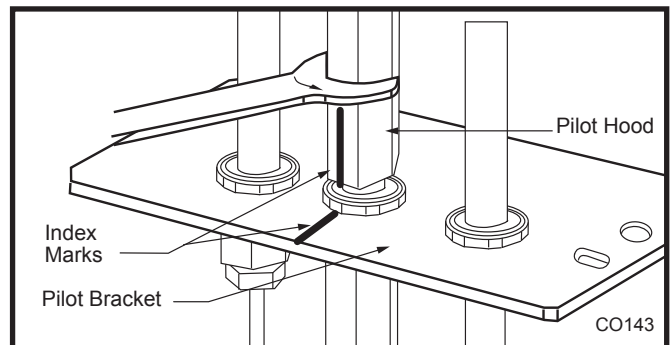

Fig. 11 Remove pilot hood. (Your pilot may have a different appearance.)
- Loosen pilot hood turning counterclockwise using a 7/16" wrench. (Fig. 11) **NOTE:** You may use penetrating oil to prevent pilot hood threads from seizing up.